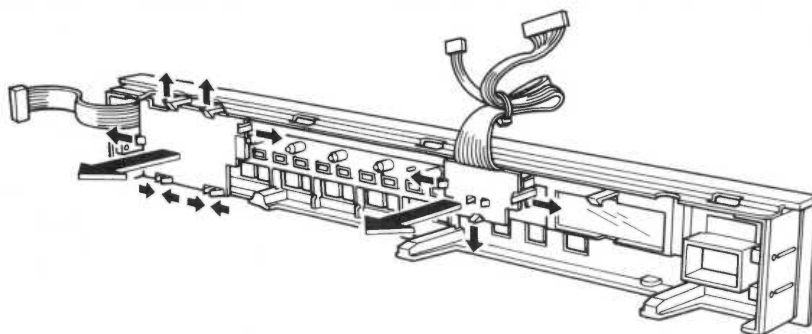

Fig. 9
4. Removing the switch PWB and the LED PWB (Fig. 9)